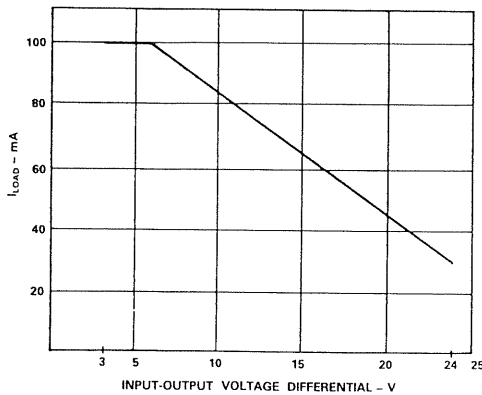
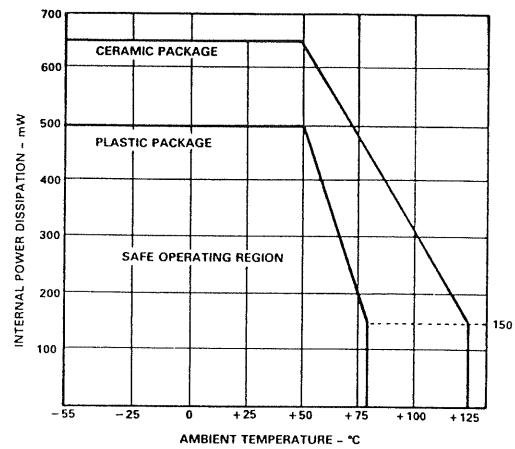

Figure 13. Excitation Source Input - Output Voltage Differential vs. Load Current; Ambient Temperature  $\leq 25^\circ\text{C}$ .
Figure 14. Excitation Source Internal Power Dissipation vs. Temperature
**Bridge Excitation:** The adjustable bridge excitation is specified over a wide regulator input voltage range (+9.5V to +28V). Maximum load current  $I_L$  as a function of regulator input-output differential voltage is shown in Figure 13. The maximum output current also depends on ambient temperature and above 50°C a derating factor should be derived from Figure 14.